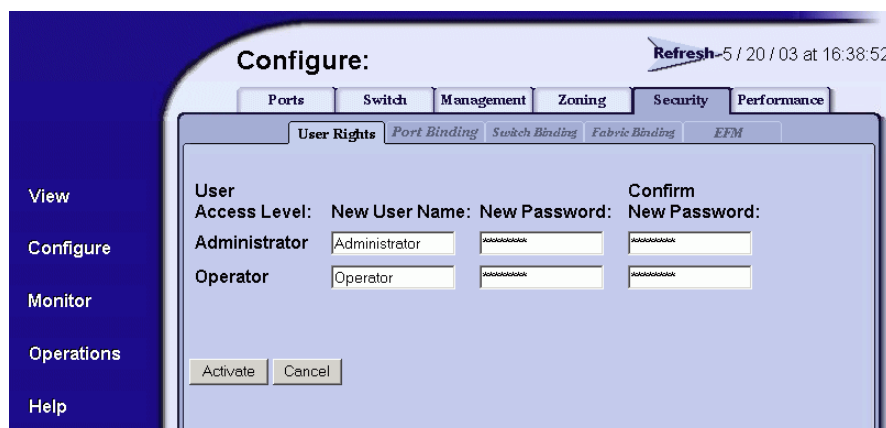

Figure 14: Configuring user IDs
2. Choose the **Security** tab and the **User Rights** tab. The **User Rights** tab view displays (Figure 14) showing the Administrator and Operator user access levels.